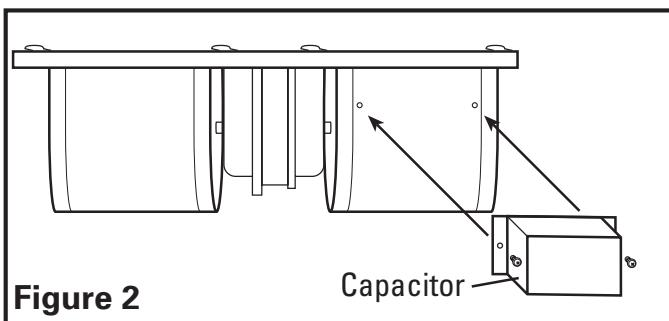

Figure 2
2. Attach the capacitor to the blower by lining up the two holes on the flange of the capacitor with the holes on the blower. Use the 2 included #6 screws to make the connection and fully tighten (**Figure 2**).
3. Attach the capacitor to the blower by lining up the two holes on the flange of the capacitor with the holes on the blower. Use the 2 included #6 screws to make the connection and fully tighten (**Figure 2**).